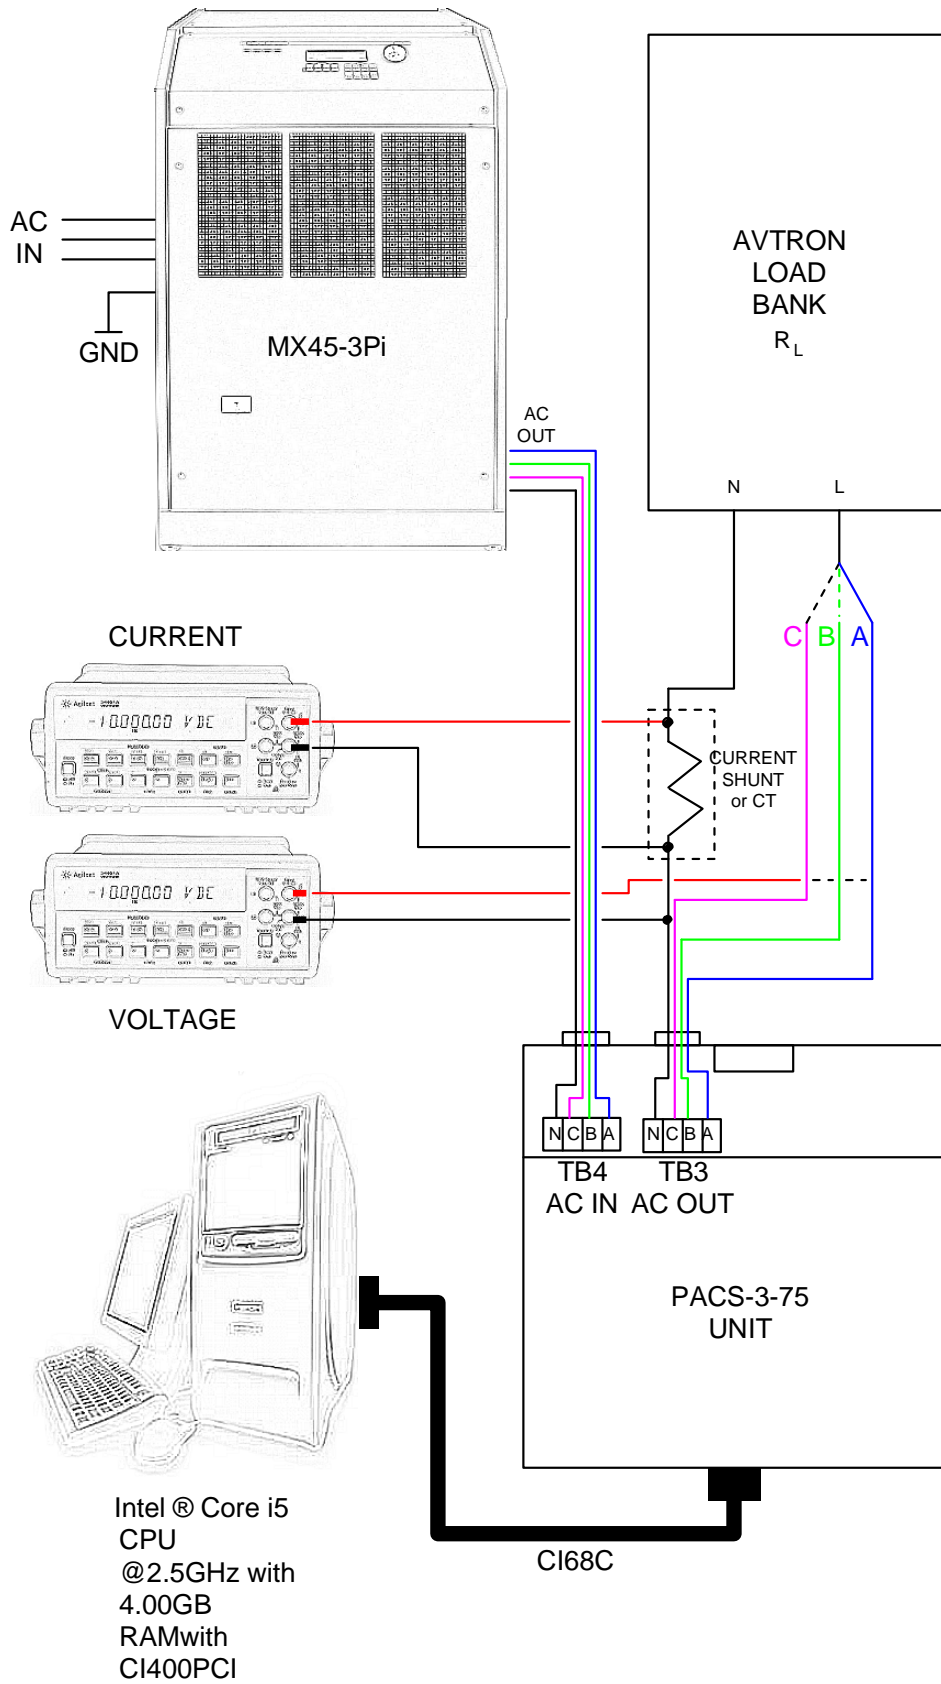

Figure 17-2: Three Phase Calibration Setup
1. Configure the test set-up as shown in Figure 17-2. Please note that only a single-phase A/C source is needed to calibrate a three-phase PACS unit.